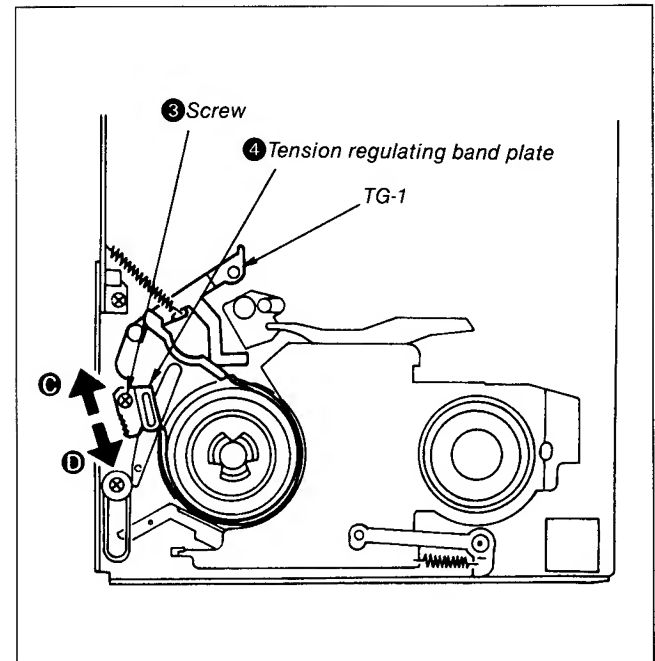

Fig. 8-43.
- 5) If TG-1 arm assembly **1** is within the inner side than the specified position, shift the tension regulating band plate **4** slightly in the direction of arrow **C**. If it is in the outer side, shift it slightly in the direction of arrow **D** and secure it with screw **3**. (See Fig. 8-43)